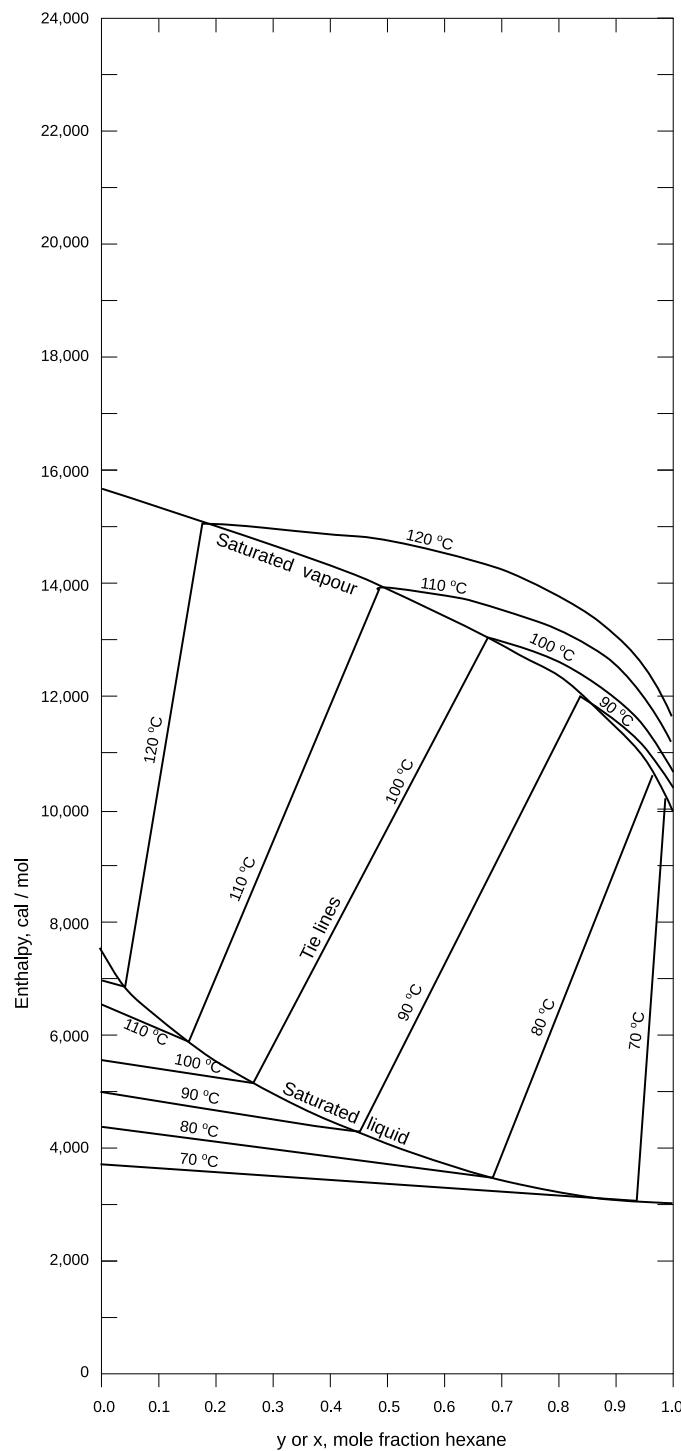

Figure 42: Enthalpy concentration diagram for hexane-octane mixtures at 760 mmHg. For use in Q. 38.
- a) A mixture of *n*-hexane and *n*-octane is to be separated by distillation to produce a bottom product containing no more than 3 mol% *n*-hexane and a top product of at least 95% purity of *n*-hexane. An enthalpy-composition chart is given in Fig. 42 which you should use and include in your solution booklet.